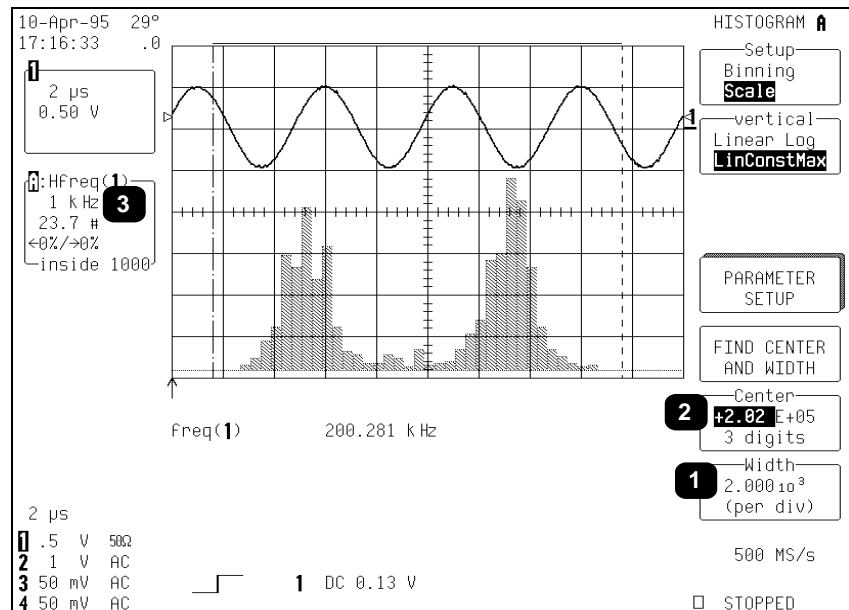

Figure 6.14
3. **LinConstMax** sets the vertical scaling to a linear value that uses close to the full vertical display capability of the scope (Figure 6.14). The height of the histogram will remain almost constant.